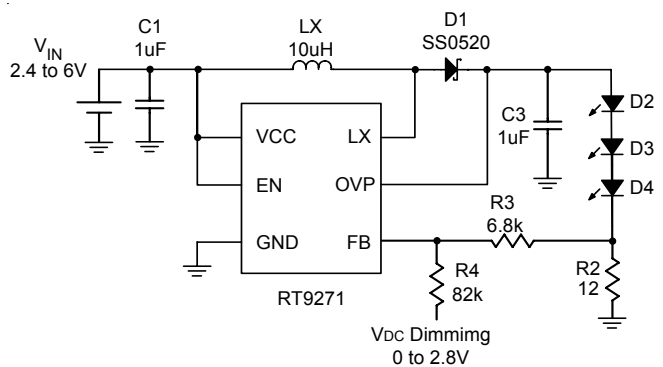
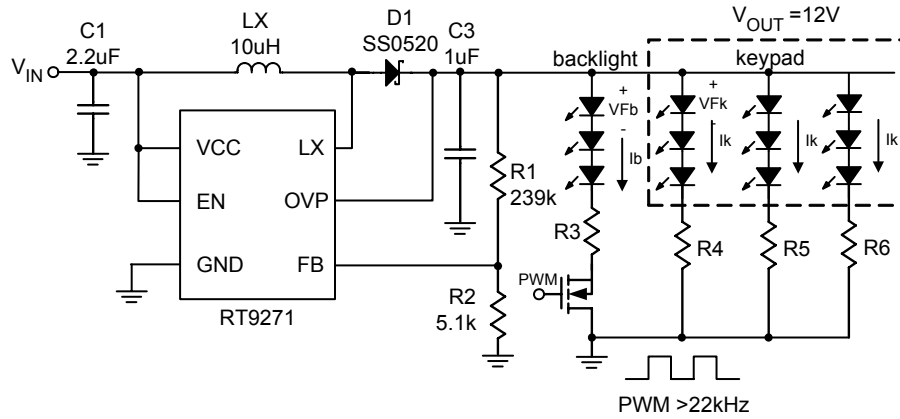

Figure 5. Dimming Control Using a DC Voltage
Figure 10. Constant output voltage for backlight and keypad
Using a variable DC voltage to adjust the brightness is a popular method in some applications. The dimming control using a DC voltage circuit is shown in Figure 5. According to the Superposition Theorem, as the DC voltage increases, the voltage contributed to VFB increases and the voltage drop on R2 decreases, i.e. the LED current decreases. For example, if the VDC range is from 0V to 2.8V, the selection of resistors in Figure 5 sets dimming control of LED current from 20mA to 0mA.
Figure 10 is another application of RT9271 for backlight and keypad. Setting the divider-resistors (R1 & R2) is to get a constant output voltage that depends on the forward voltage and the numbers of series-LEDs. It can turn on backlight of main panel and keypad at the same time. Applying different duty cycle of PWM signal above 22kHz to the backlight's switch can also control the brightness of main panel's backlight. The keypad's backlight will keep the same brightness during the dimming control of main panel. Otherwise the brightness of keypad's s backlight can also change during the dimming control of main panel by using the application circuit as figure 5. The following formula (4)(5) can determine the resistors of Figure 10.